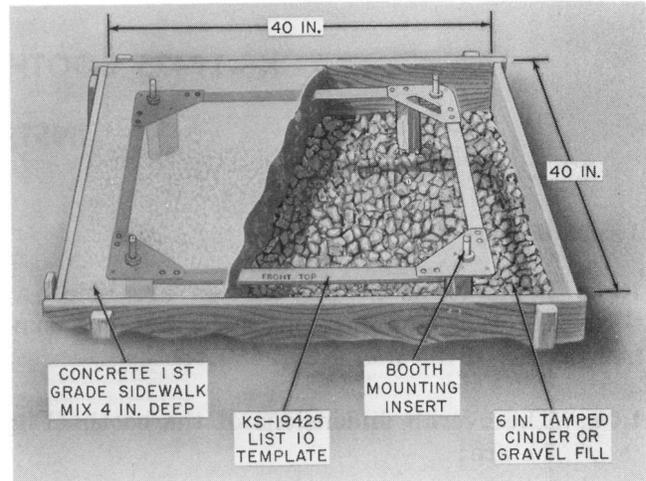

Fig. 2 — Concrete Base Preparation With KS-19425, List 10 Template
- (a) Prepare a form 40 inches square with an inside depth of 10 inches (Fig. 2).
- (c) Position the template in the form on wooden blocks so that the top of four mounting inserts will be flush with concrete base as shown in Fig. 2.